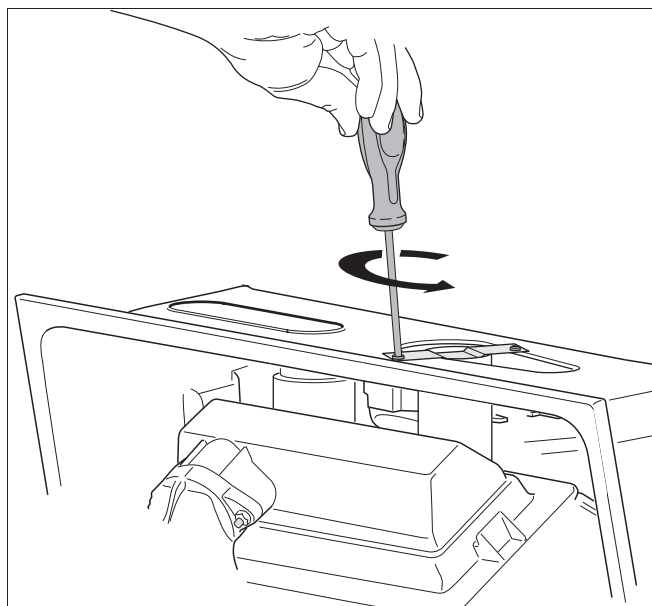

Fig. 13 Removing the transport safety device
- Remove the transport safety device with the two screws (see fig. 13).